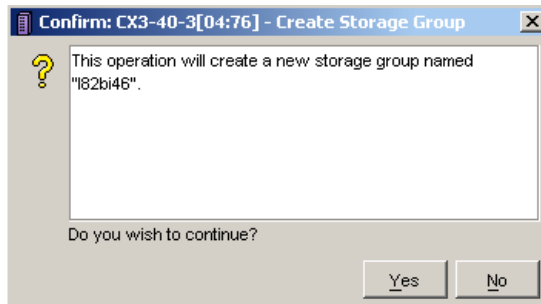

Figure 8-32 Create Storage Group window
- From the Create Storage Group menu, define the name of the group and click **Apply** and **OK**. In our example, we typed I82bi46. You will see a window similar to Figure 8-32.